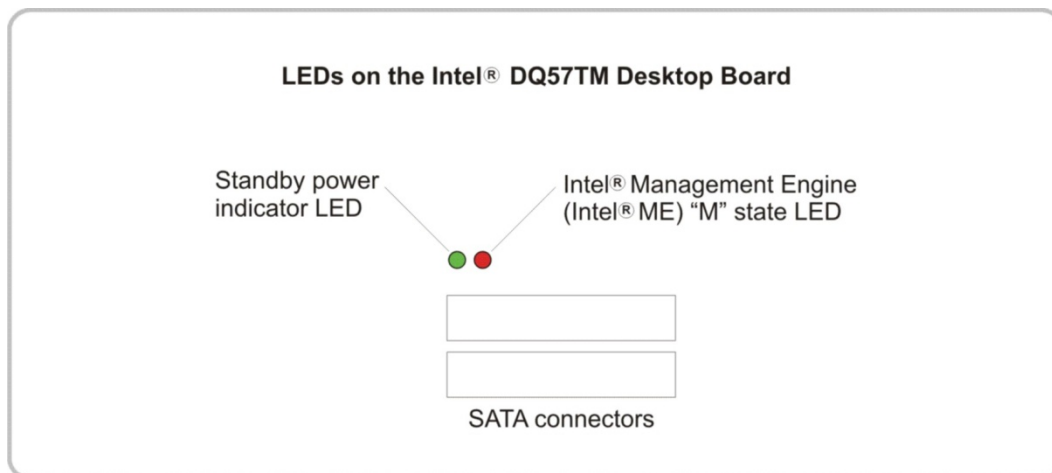

Figure 3-2. Location of the standby power indicator LED on the motherboard.
3. There is a green standby power LED next to the SATA connector on the motherboard. Wait until this LED turns off. See Figure 3-2.